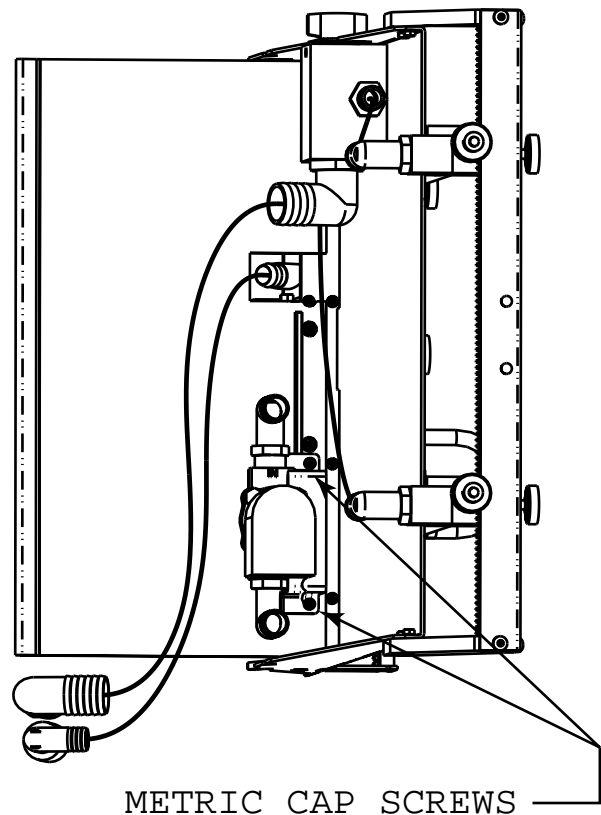

Figure 2
4. Carefully remove the two metric socket head cap screws and mount the vacuum solenoid assembly. (Figure 2) Re-insert and tighten the two metric socket head cap screws.